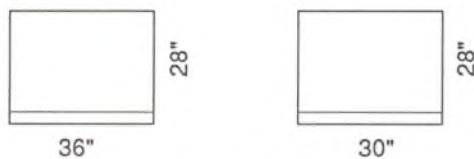

Fig. 9.9 Refrigerator and freezer sizes.
1. The only designations necessary on the plan for refrigerator and/or freezer are the units, their size and the line of the cabinet above. (See Fig. 9.9.)